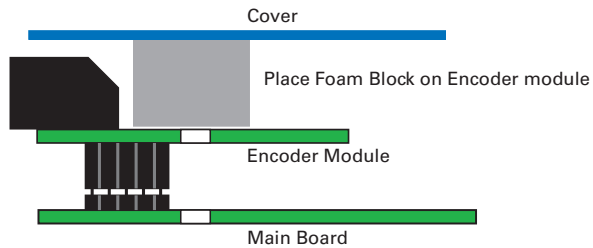
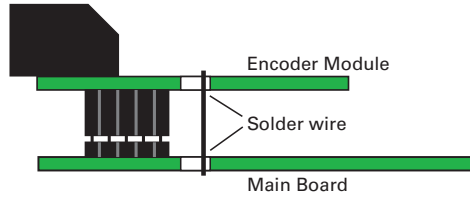

FIGURE 44. Place foam block between module and cover to hold in place
FIGURE 45. Solder wire for robust assembly
- 3- The encoder module will be held in place by the connectors and the new front bracket's opening around the RJ11 connector. For added stability, place the foam pad on top of the Encoder module as shown in Figure 44 so that it is held in place by the sliding cover. For use in harsh shock and vibration environments, you may instead solder a metal wire inside the 0.1" hole found on the main board (next to one of the two header) and solder the other end inside the matching hole on the encoder module, as shown on Figure 45.